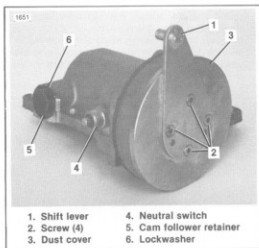

Figure 7-4. Drum Shifter Assembly
3. See Figure 7-4. Remove the shift lever (1), mounting screws (2), and dust cover (3). Remove the neutral switch (4). Remove the cam follower retainer (5) and lockwasher (6). Remove the spring and cam follower from the retainer (5).
- See Figure 7-4. Install the dust cover, shift lever and mounting screws. Coat the threads of the mounting screws with Loctite LOCK N' SEAL.